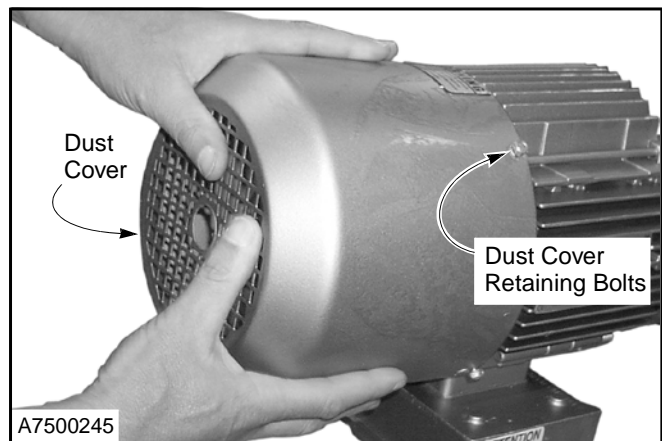

Figure 38
2. Loosen hex-head bolts retaining the dust cover to the motor assembly. Remove the cover. (See Figure 38.)